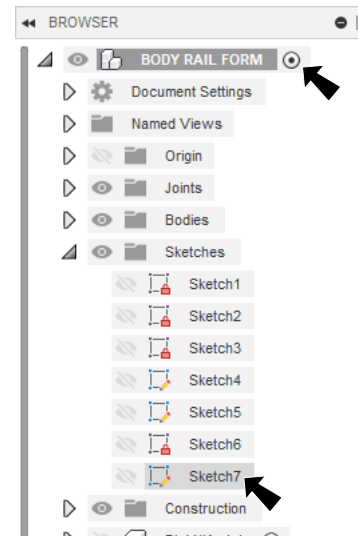

Fig. 15
Step 2. Expand **Sketches** folder and **Hide**  **Sketch7**, **Fig. 15.**
Step 3. Activate  **BODY RAIL FORM** Assembly , **Fig. 15.**